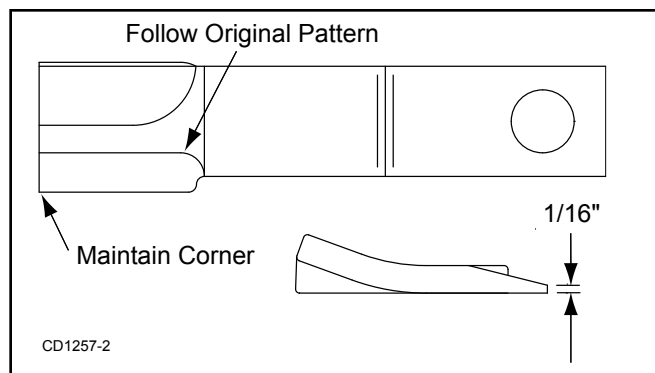

Figure 7. Blade Sharpening
8. Tighten Belleville spring (5) until it is against the thrust plate (4) of the clutch, and then back off each of the six nuts by 2 full revolutions. The gap between Belleville spring and thrust plate should be 1/8" as shown in Figure 7.
9. If a clutch continues to slip when the spring is compressed to 1/8" gap, check friction discs (2) for excessive wear. Discs are 1/8" when new. Replace discs after 1/16" wear. Minimum disc thickness is 1/16".
4. Loosen six 10 mm cap screws (6) to remove all tension from Belleville spring plate (5).
5. Hold clutch hub (3) solid and turn shaft to make sure clutch slips.
6. If clutch does not slip freely, disassemble and clean the thrust plate faces (4), flange yoke (1), and clutch hub (3).